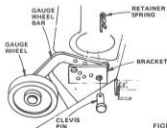

FIGURE 39
8. Insert Gauge Wheel Bar into Bracket, Retain with Clevis Pin and Resiner Spring (Fig. 39).